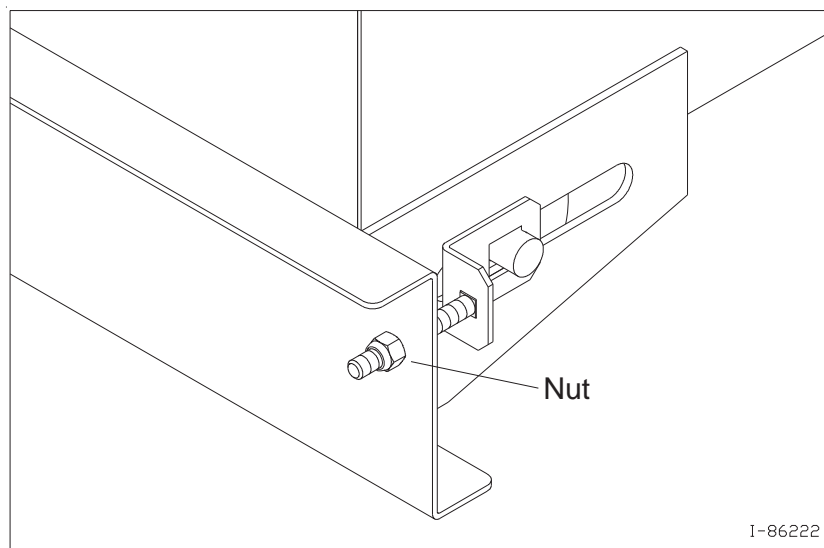

Figure 4A - Adjusting the Floor Apron Chain for Proper Tension
- Use a 9/16" wrench to tighten the adjustment nut on the lower left/right front of the spreader box as shown in Figure 4A.